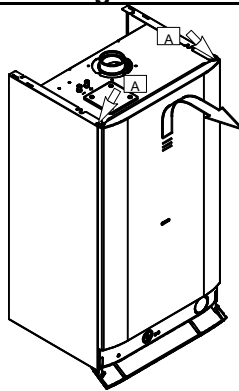

Figure 17.1
- Loosen the screws A (Fig. 17.1)